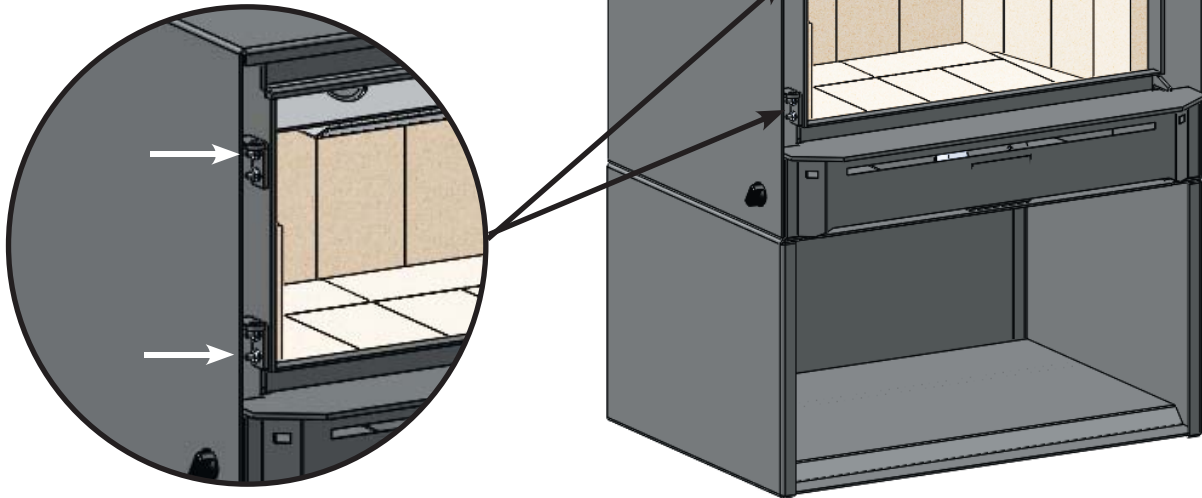

Fig. 3
4. Loosen the four door hinge nuts using a 7/16" wrench. Slide door hinges in to tighten door seal and out to loosen door seal. (Fig. 3)